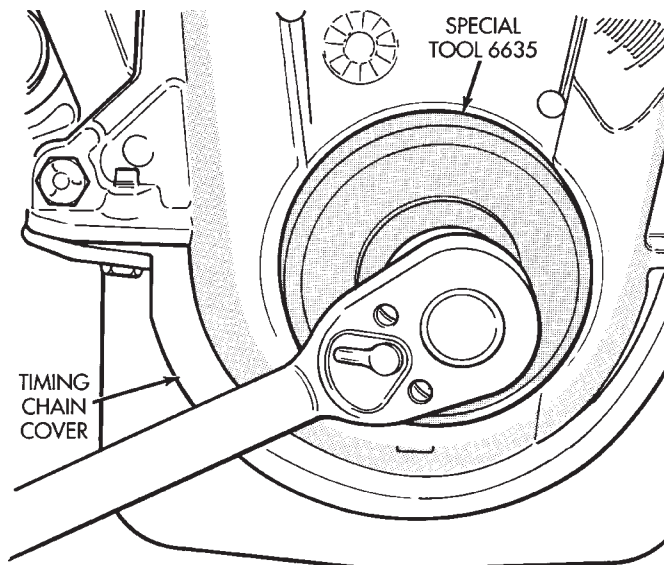

Fig. 45 Installing Oil Seal
(7) Using the vibration damper bolt, tighten the bolt to draw the seal into position on the crankshaft (Fig. 45).
(8) Remove the vibration damper bolt and seal installation tool.